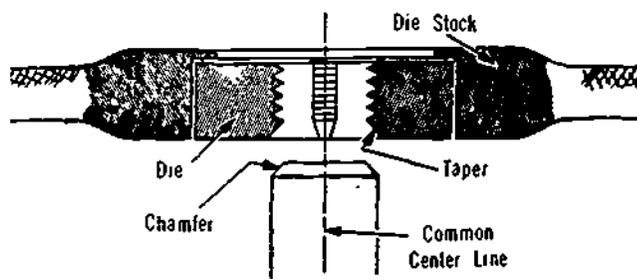

Figure 17-32. Chamfer Ground on End Before Starting Die
a) To cut threads on a piece of round stock, first grind a chamfer on the end of the rod as shown in Figure 17-32. This aids in starting the die and also inserting the finish thread into its final location.